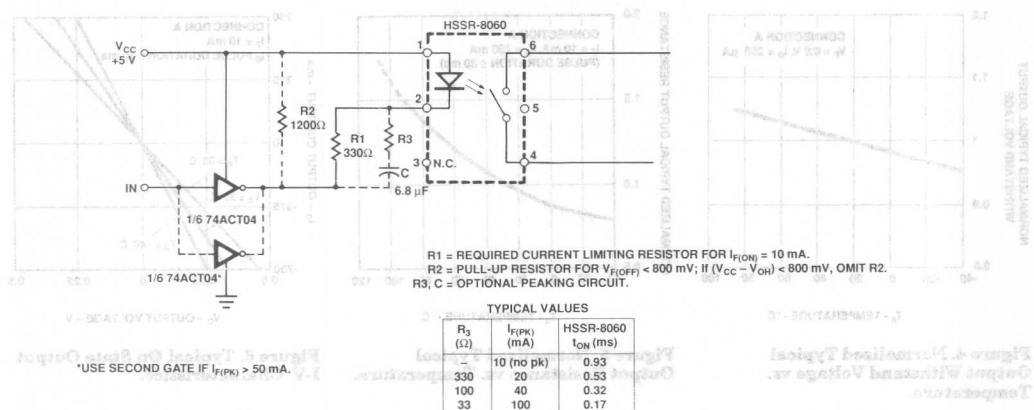

Figure 1. Recommended Input Circuit.
- For a faster turn-on time, the optional peaking circuit shown in Figure 1 may be implemented.